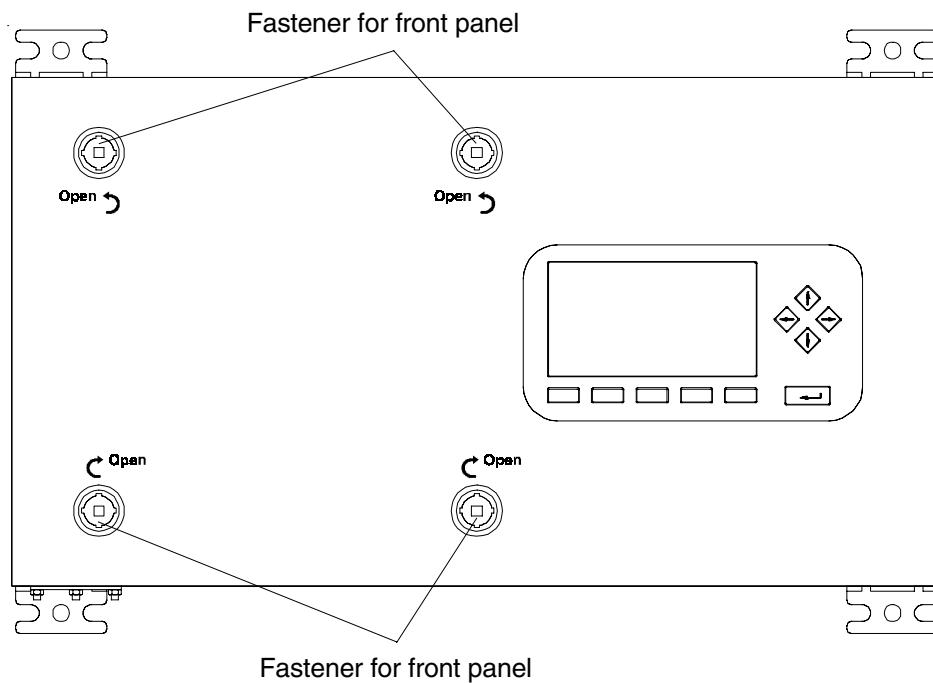

Fig. 15-5: MLT 2 (Field housing) (fastener for front panel)
- The front door is closed utilizing 4 sash fasteners (fig. 15-5).